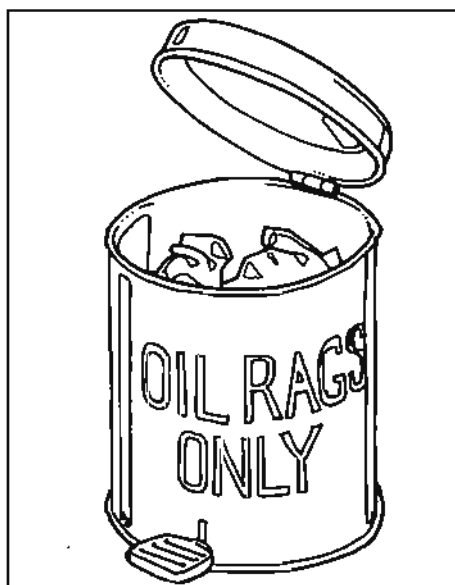

Figure 4-12.
- 2) Oil rags should be placed in covered metal cans and thrown away as soon as possible (Figure 4-12).